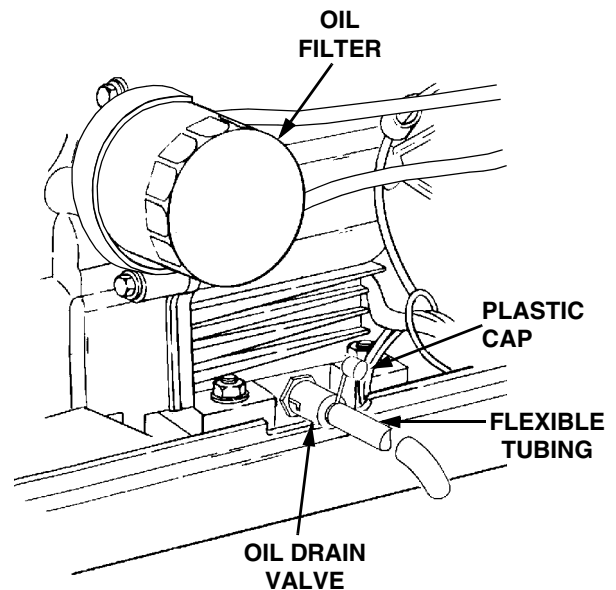

Figure 20
The oil filter is located behind the left side panel and is mounted on the oil cooler adapter of the engine (See Figure 20).
3. Unseat the plastic dust cap from the engine oil drain valve. To prevent loss of the cap, do not remove the cap's retaining ring from the drain valve (Refer to Figure 20). Remove the dipstick and oil fill cap.